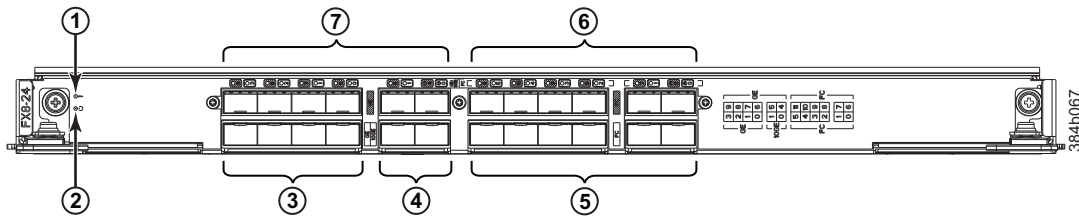

Figure 48. FX8-24 extension blade
- Figure 48 on page 134 shows an FX8-24 extension blade